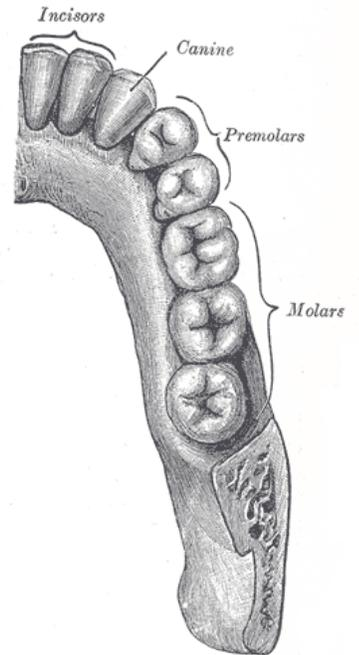

Figure 1: Permanent teeth of right half of lower dental arch; From <http://en.wikipedia.org/wiki/File:Gray997.p>
- 3) Due to its tight placement (Figure 1), the tooth array can also be treated as a slab (7.2 mm thick), heated from both sides. If the nerve can still be considered at  $1/3$  distance from the center of the slab to the side, what is the temperature at the nerve location after 30 seconds? ◀ 5 points ▶